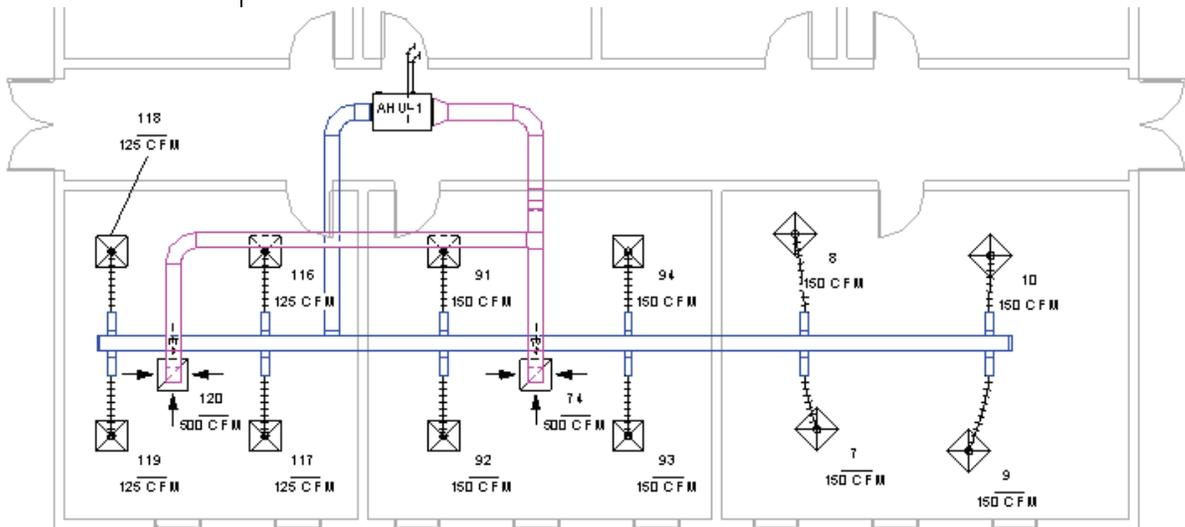

Figure 2–51
In this practice you will use temporary dimensions, controls, and snaps to modify the location of elements. You will then copy and move elements as well as rotate and align elements. The final version of the project is shown in Figure 2–51.
3. Zoom in to the connectors/controls. Select the temporary dimension above the unit and change the *distance* to **2'-0"**, as shown in Figure 2–52.